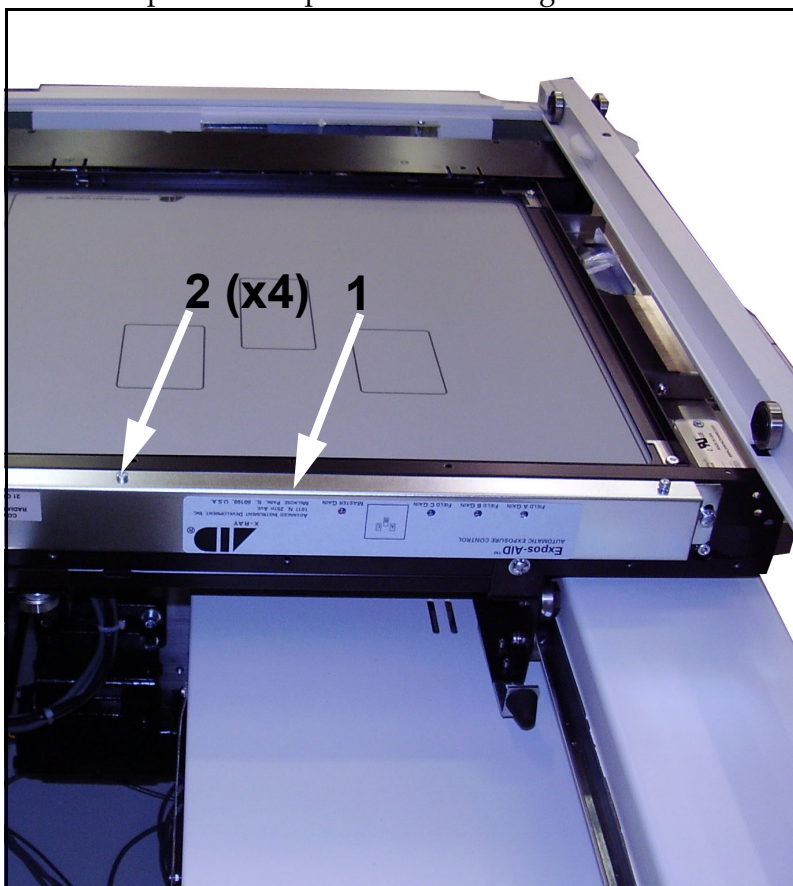

Figure 2-20. Ion Chamber Cover
- 38** Reinstall the cover (1 in Figure 2-20) and secure with the four screws (2). Make sure that the chamber mates with the grommet installed in the previous step when reattaching the cover.